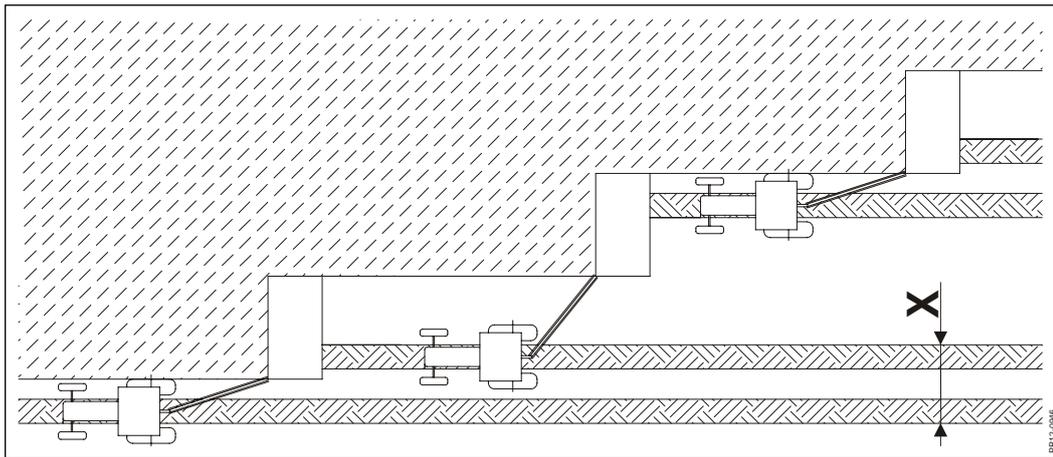

Fig. 3-33
**Fig. 3-33** The equipment for double swathing makes it possible to place two swaths at such a small distance **X** that in most cases a 3 m pick-up can pick up two swaths at a time.